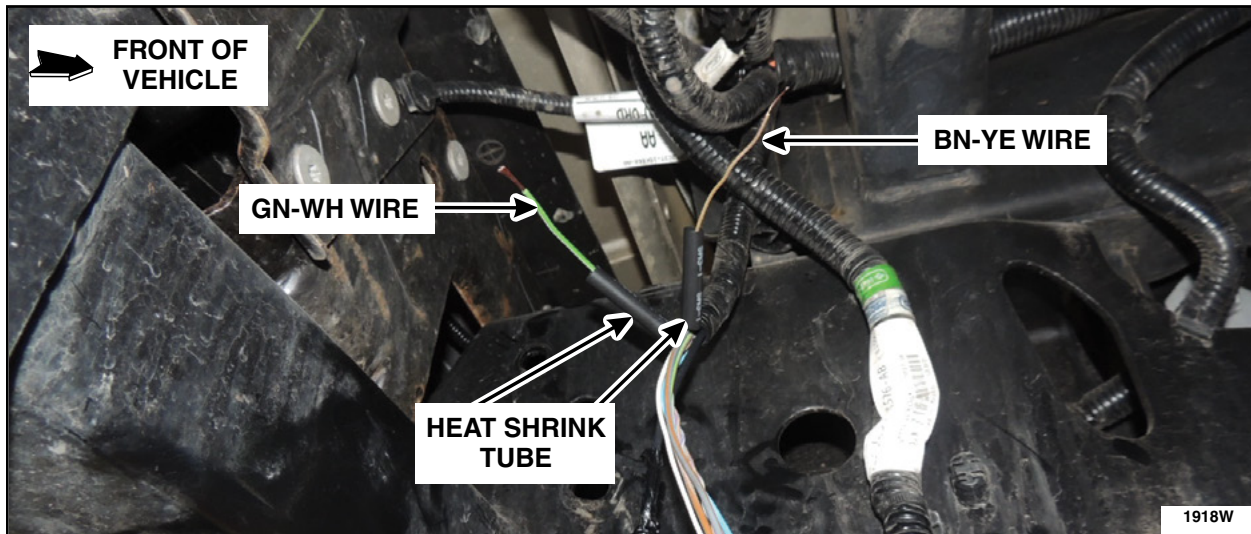

FIGURE 20
23. Place a piece of dual wall heat shrink tube onto each GN-WH and BN-YE wires. Making a bend in the wires will prevent the heat shrink tube from falling off. See Figure 20.